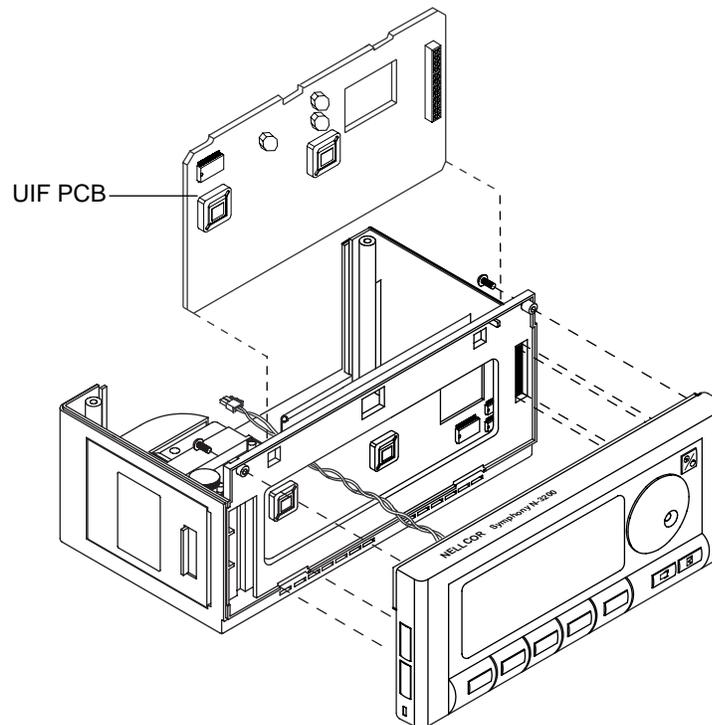

Figure 6-15: Removing UIF PCB
4. Pull the UIF PCB straight up to remove as illustrated in Figure 6-15.